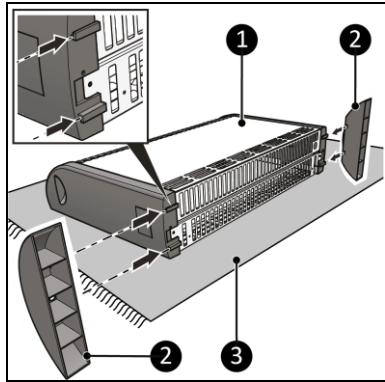

Figure 4
1. Lay the device down on a steady soft surface (Figure 4, pos. 3).
2. Place the pedestals (Figure 4, pos. 2) on both sides of the main body (Figure 4, pos. 1).